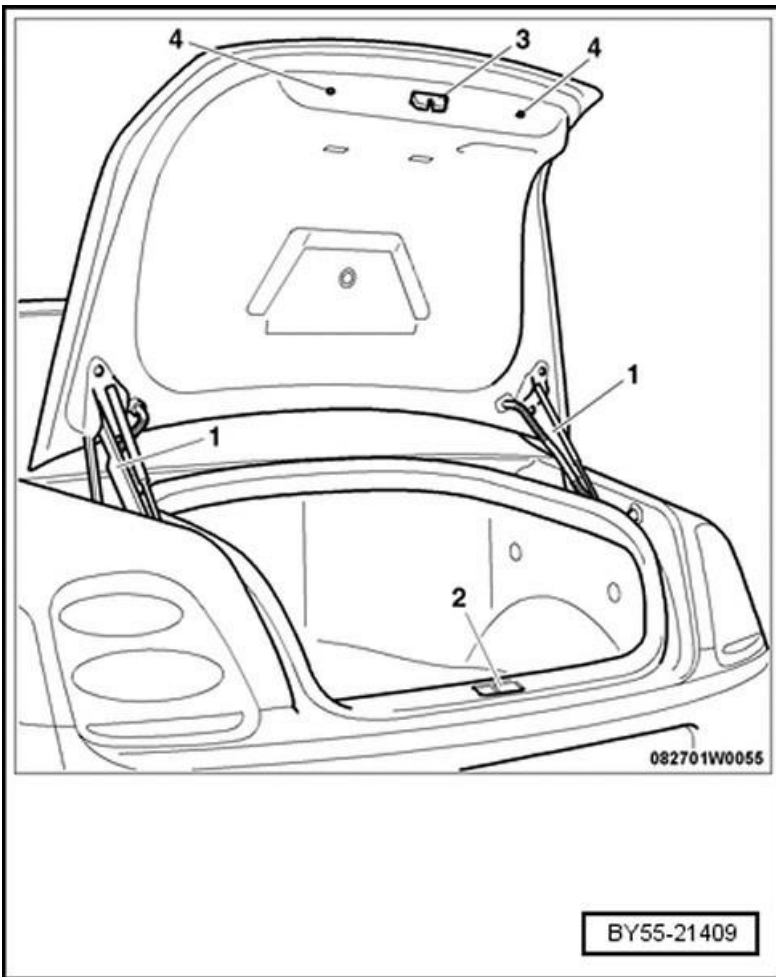

Figure 9
Prior to adjusting the boot lid hinge ensure the hinge (1) is serviceable, check for excessive play in pivots, ensure the hinge function is uncompromised and no misalignment exists in the hinge elements. Replace individual hinges where necessary – *figure 9*.
Check the striker pin (2) is serviceable, the pin surface should be undamaged and must rotate freely by hand, free off and lubricate where necessary, in extreme cases a replacement may be required – *Figure 9*.
The position of the boot lid can be set by adjusting the hinges (1) or the striker (2). The locking latch (3) is attached directly to the boot lid. It does not have slotted holes and therefore has no means of adjustment. Before any adjustments are made the car must be resting on its road wheels and on level ground. Ensure the socket used to release the fasteners is 'as new' and that it is fully engaged with the fastener. Tapping the socket with small dead blow hammer to assist the tool in *cutting into* the paint to aid engagement is recommended. Releasing the harness conduit clips from the each hinge will assist in access. When applying specific torque to fasteners ensure any adaptors or extensions used on the torque wrench are accounted for in your calculation for applied torque – *figure 9*.
- Ensure ball end clips are fitted correctly and gas struts are fitted the correct way up. The main body of the gas strut connects to the boot lid with the rod end connecting to the car body - Figure 9.